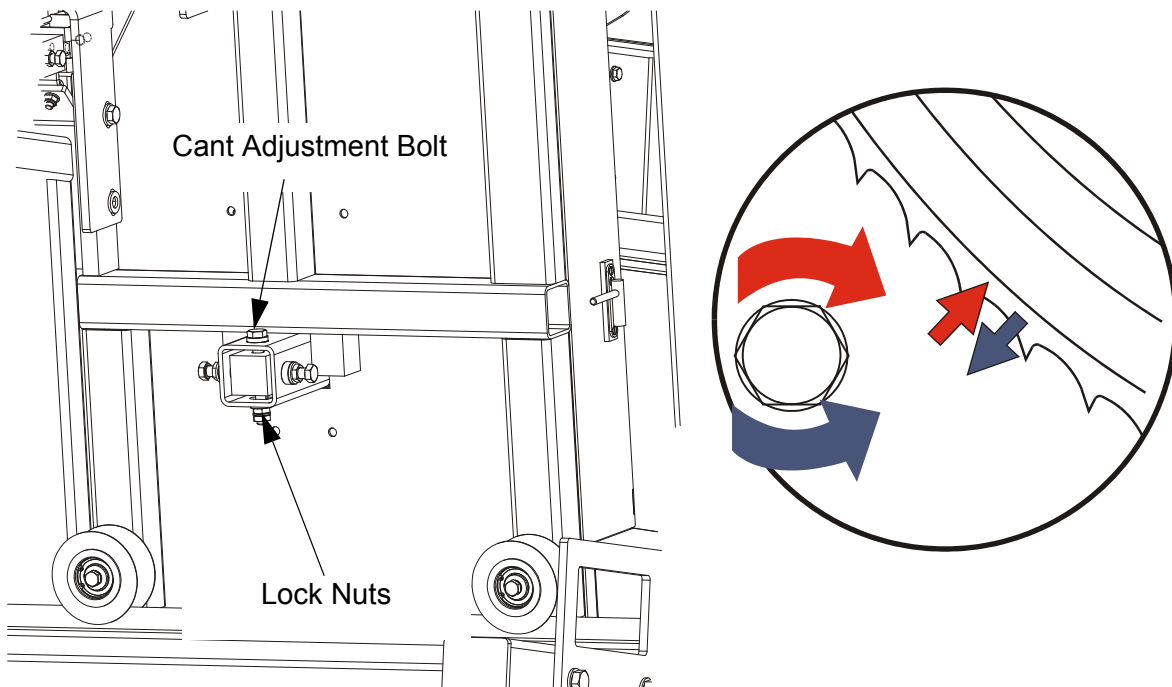

FIG. 5-13
**See Figure 5-13.** Use the cant control adjustment to adjust the drive-side blade wheel. If the blade is too far forward on the wheel, turn the cant control bolt clockwise. If it is too far back on the wheel, turn it counterclockwise.